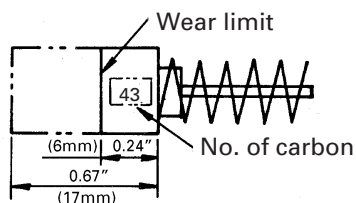

Fig. 17
## 2. Inspecting the carbon brushes (Fig. 17)
**NOTE:** Use HITACHI carbon brush No. 43 indicated in Fig. 17.